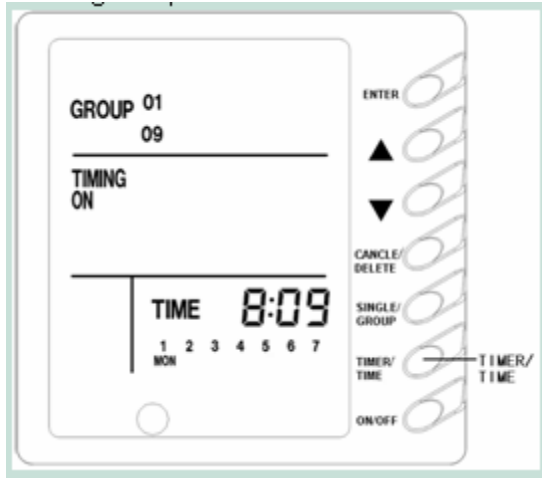

Fig.9.
- 1) Short-press “**timer/time**” to enter timer setting. At this time, “**TIMING**” and “**ON**” displayed and blink, timer is in valid state (fig.9).